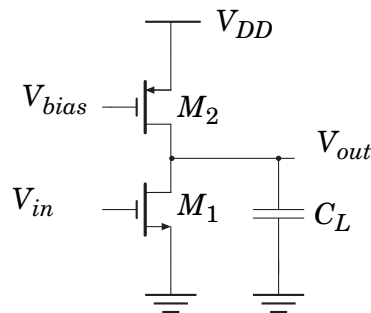

Figure 5.2 A basic building block.
- c) Derive the power supply rejection ratio from the positive power supply of the amplifier shown in Figure 5.2. Neglect the influence of the capacitive parasitics. (3p)